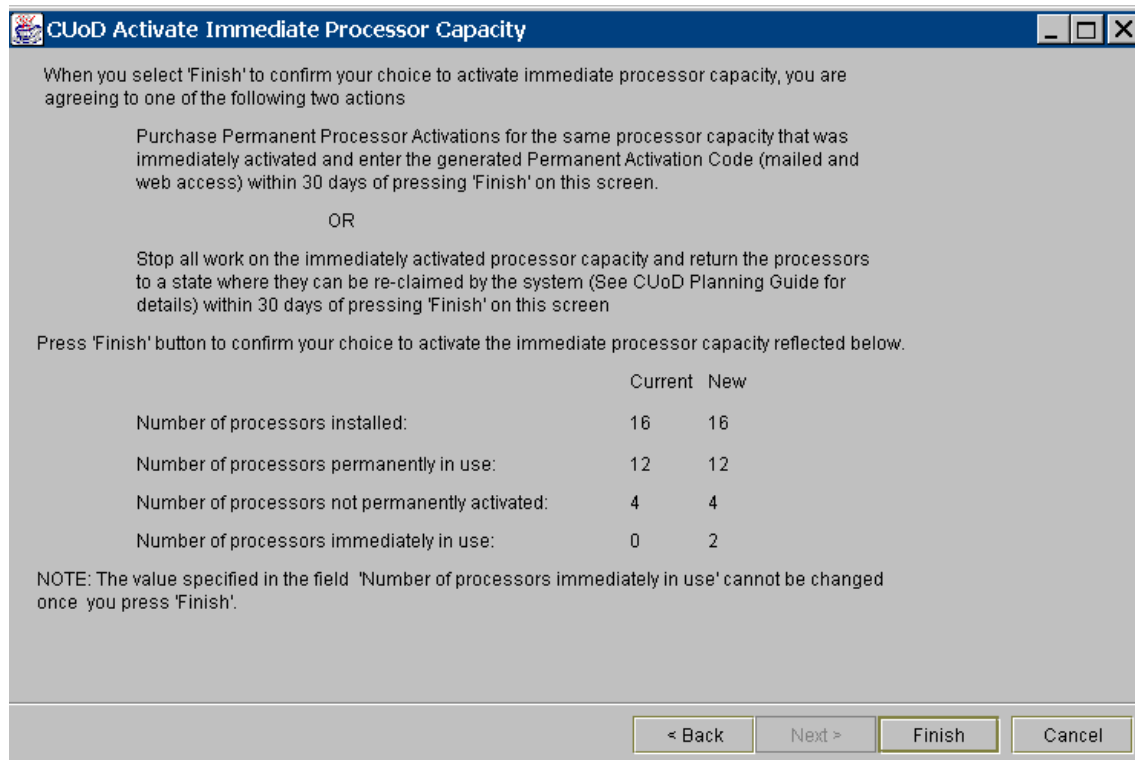

Figure 4-10 CUoD Trial CoD Processor capacity (Finish) screen
3. After entering the required amount of resources, click **Next** and a summary of the activated and non-activated resources will be displayed (see Figure 4-10).